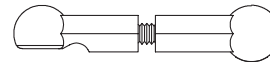

Figure C-6A
1. Thread a Short Plastic Rod End (26) onto each end of the 4-40 x 5/8" Threaded Rod (27).
2. Refer to Table C-3C (on the previous page) to determine the appropriate Rod length for the servo that is installed. Tighten both sides equally until the rod is the same length as the one shown in Figure C-6A or C-6B.